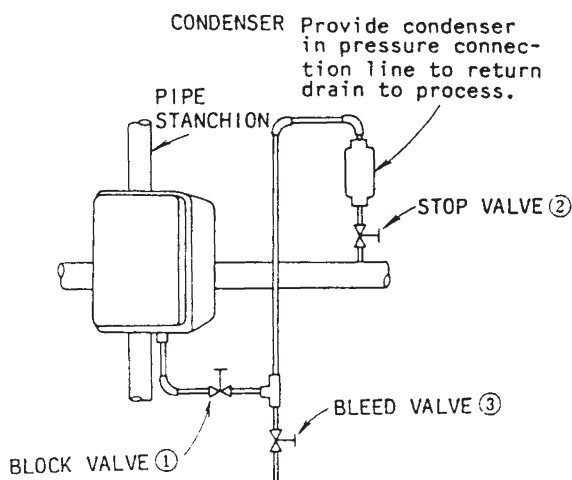
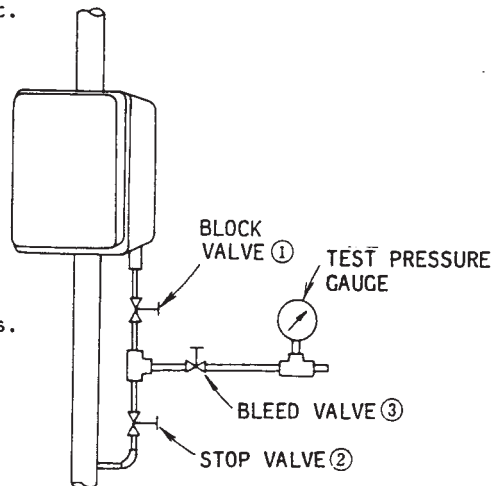

Fig. 7-1. Piping for Wet Gas Pressure Measurement
Fig. 7-4. Piping for Dry Gas Pressure Measurement
6.3 Piping for Pressure Indicating Controller (Refer to Fig. 7-1 - Fig. 7-4.)
(6) Of the pressure indicating controller, the operating sequence differs by the type of the pressure medium and by the location of the instrument with respect to the pressure tap position. (See Fig. 7-1 - Fig. 7-4.)